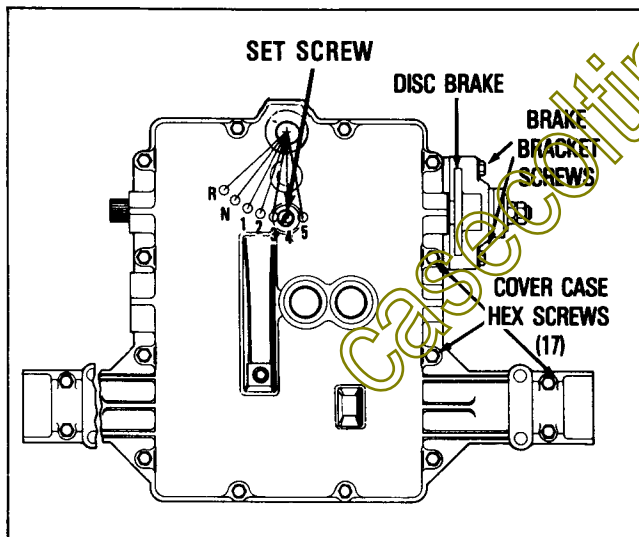

FIGURE 18
10. Install index ball, spring and setscrew in that order into cover, and slowly tighten the screw 1 turn below flush. See Figure 18.